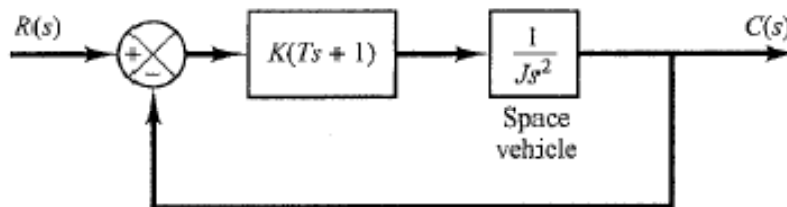

Fig. 1
- 4) Figure 1 is a block diagram of a space-vehicle attitude-control system. Assuming the time constant T of the controller to be 3 sec and the ratio $K/J = 2/9 \text{ rad}^2/\text{sec}^2$ Find the damping ratio of the system, rise time, maximum overshoot and peak time.